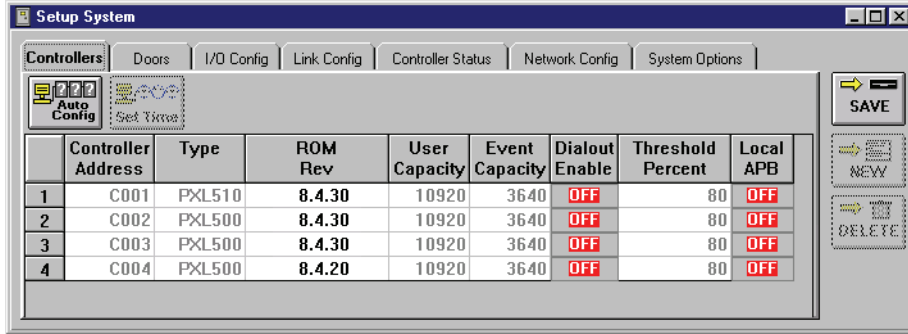

Figure 2-40: Successful Autoconfiguration Results
4. When all data is received by the host computer, the Setup System/Controllers window displays the configuration information for all responding controllers on the access control network (see Figure 2-40 on page 34 of this section).
2. Click on the **Controllers** tab. The Controllers window appears (see Figure 2-40 on page 34 of this section).